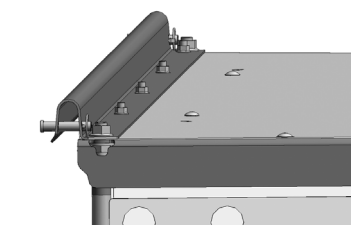

Figure 6
- 6) **Forming Shield Front Mounting Point** See Figure 6